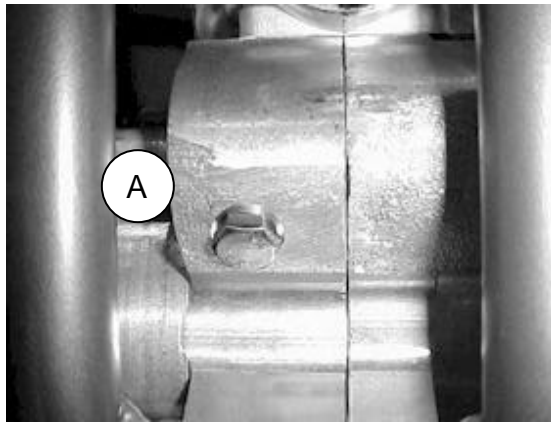

Figure 20
1. Remove the coolant drain plug (A) on the front of the engine case (figure 20).